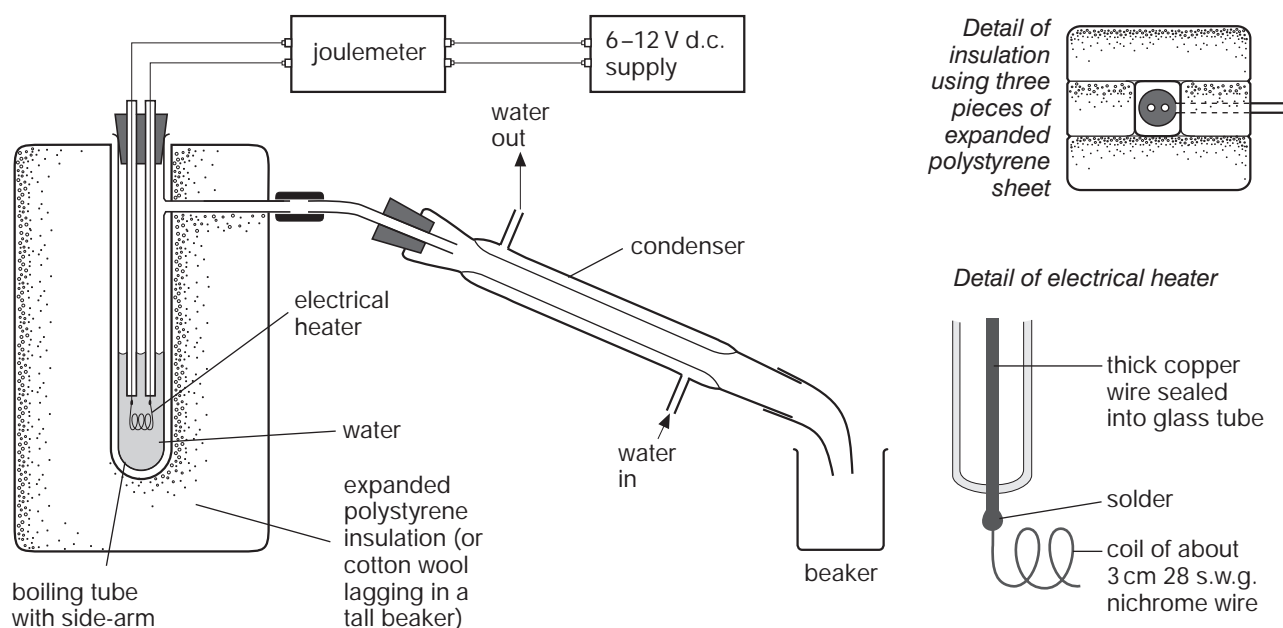

Figure 1 Apparatus for measuring the enthalpy change of vaporisation of water
- electrical heating coil (see Figure 1)
- apparatus for boiling and condensing water (see Figure 1)
- small beakers or specimen tubes (2)
- 1 Assemble the apparatus shown in Figure 1, for boiling and condensing water. Use water close to boiling in the side-arm boiling tube.